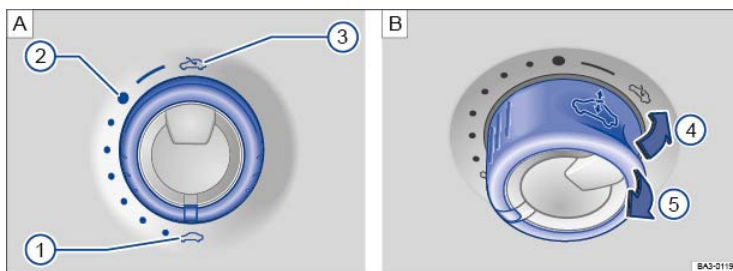

Fig. 36 In the headliner: Rotary switch for the power sunroof.
The rotary switch must be turned to its home position ⇒ Fig. 36 to tilt the power sunroof.
⇒ Fig. 36
- The switch ⇒ Fig. 36 must be rotated to the Closed position  ①.
- Turn the rotary switch to position → *Fig. 36①* and pull down the rear part of the switch → *Fig. 36⑤* until the power sunroof closes completely.